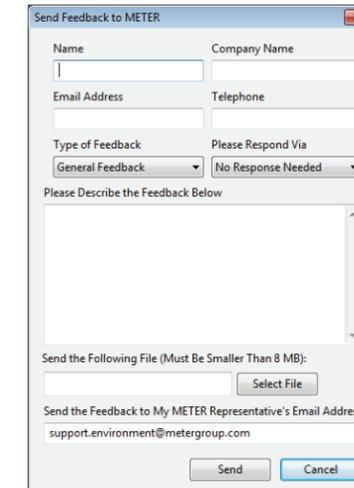

Figure 30 Send Feedback to METER Group window
- **Send Feedback to METER:** Sends product feedback, bug reports, or feature requests to METER when connected to the internet (Figure 30).